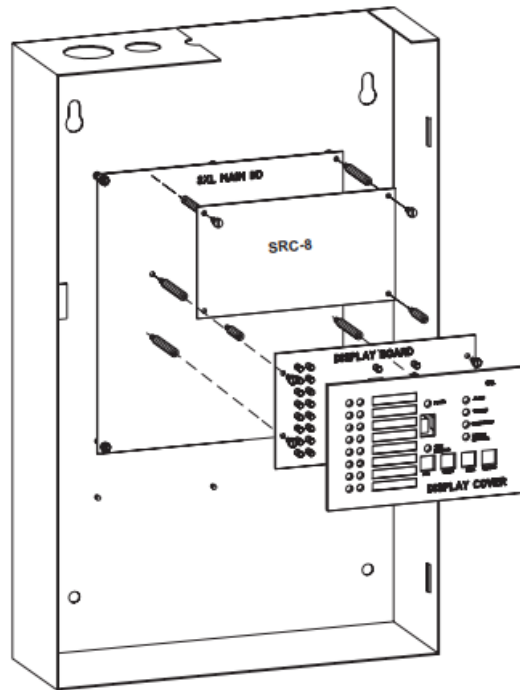

Figure 3
In an Existing SXL® System (Refer to Figure 3):
1. Remove the Display Cover from the Display Board as shown in Figure 3. Discard its top two standoffs.
- Screw the last two long standoffs provided to the Main board as shown in Figure 3.